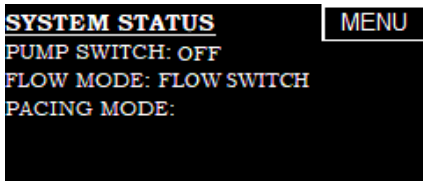
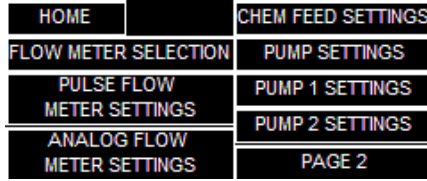
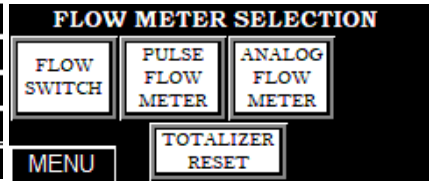

Figure 4. Home Screen
Figure 5. Menu Screen
Figure 6. Flow Meter Selection Screen
From the home screen press the Menu Button, as shown in figure 4. Next press the Flow Meter Selection button, as shown in figure 5. Please note that some options shown in figure 5 are only for available depending on what settings have been made. The Flow Switch will need to be selected by pressing the Flow Switch Button, as shown in figure 6. Next press the Menu button again and select the Chem Feed Settings, as shown in figure 7. On the Chemical Feed Selection, press the Fixed Speed button, as shown in figure 8, then press the menu button and navigate back to the home screen. If the Pump switch is turned to the ON position, the pumps will turn on and run manually. With the pump switch in the Auto (A) position, the pumps will only run when flow is detected.
From the home screen press the Menu Button, as shown in figure 4. Next press the Flow Meter Selection button, as shown in figure 5. Please note that some options shown in figure 5 are only for available depending on what settings have been made. On the Flow Meter Selection screen, the Analog Flow Meter will need to be selected. Do this by simply pressing it, then press the Next button to be taken to the Flow Meter Settings screen. If using a loop powered flow meter, that is a flow meter that is powered by the FS-1, select the ANALOG POWERED BY FS1. If the analog flow meter is powered by the pump station, or an external unit, select the EXTERNAL POWERED ANALOG. Enter the maximum value for the flow meter for the given size pipe it is installed in. Often this can be located in the manual for the flow meter. To enter the maximum flow rate, click on the box with the flow rate and a numerical keypad will appear, as shown in figure 12. Once the value is entered, press the enter ENT button. CAN is cancel and will bring you back to the previous screen and clear any value that was entered and CLR is clear and will clear the value.